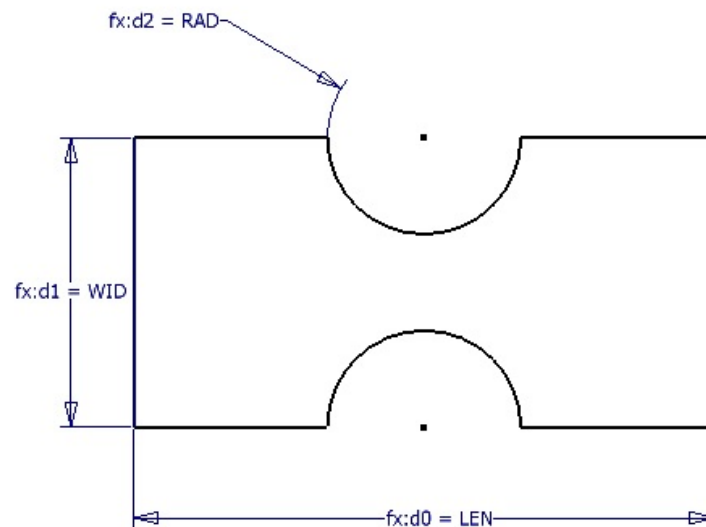

Figure 14-31 Sketch displaying the dimensions as equations
- e. Invoke the **Dimension** tool and dimension the sketch by entering parameters instead of entering values in the **Edit Dimension** edit box, refer to Figure 14-31.